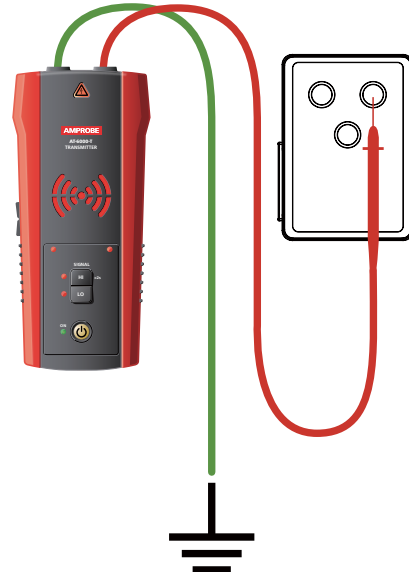

Figure 3.1a: Proper connection with separate ground
2. Plug the socket adapter onto the receptacle and connect the red lead to the Energized hot wire (on the load side of the system). The signal will ONLY be transmitted between the load-side to which the Transmitter is connected and the source of power (see Figure 3.1a).